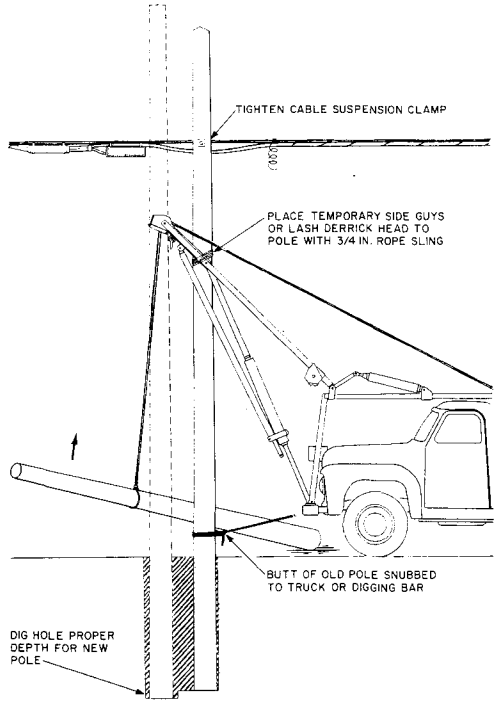

Fig. 6—Placing Tall Pole
- 3.07** Poles which are taller than the derrick is capable of handling may be placed by using the old pole as a gin pole (Fig. 6).